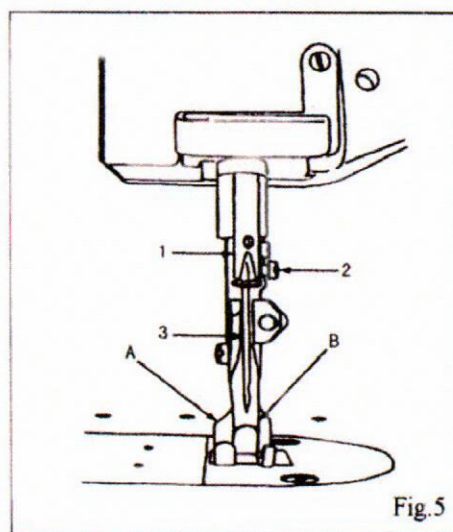

Fig.5
#### 4. REPLACE NEEDLES (Fig.5)
2) When altering the lift of the lifting presser foot (A Fig.5) unequally against that of the vibrating presser foot (B Fig.5) or vice versa, see the instructions " ADJUSTING THE HEIGHT OF THE PRESSER FEET "